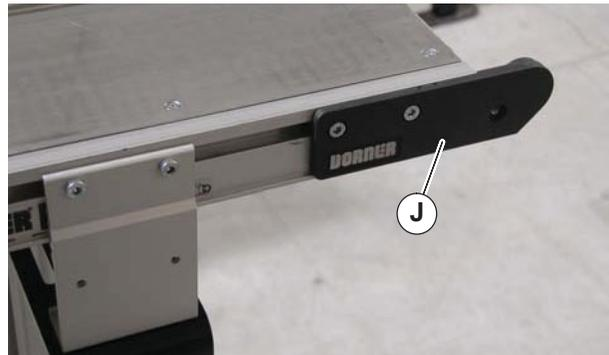

Figure 7
4. Install a new head plate (Figure 7, item J) on one side of the conveyor.